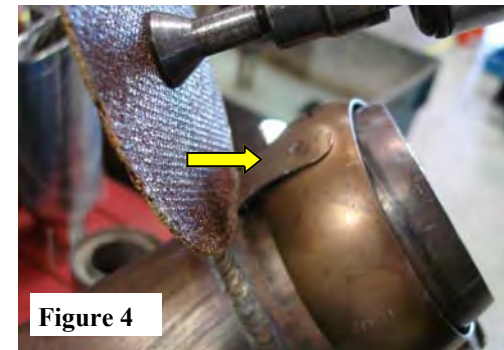

Figure 4
3. Beginning with the left (driver) side muffler, using a flat blade screwdriver, pull the clip to disengage it from the pipe. (See Fig. 4)
Do not discard ball clamps as they will be used for installation of your new exhaust. (See Fig. 4)